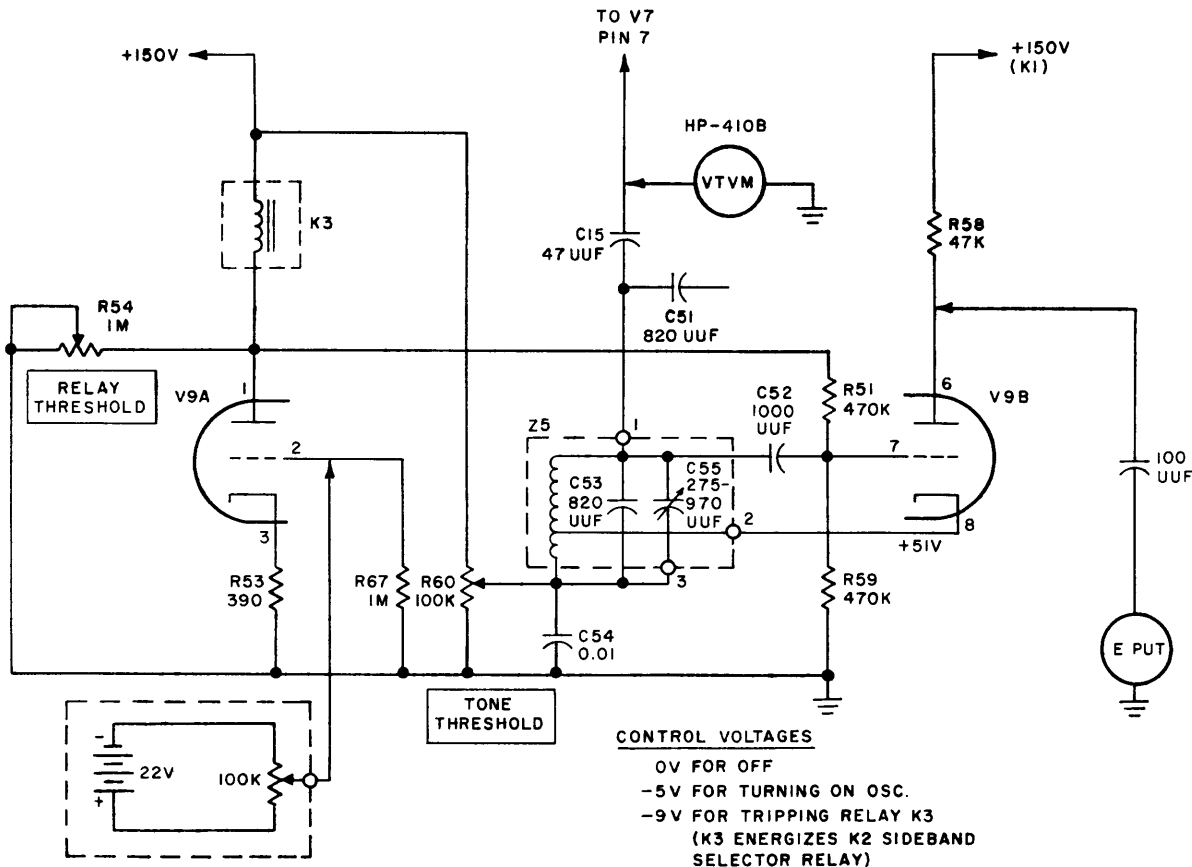

Figure 5-1. Control Voltage Setting Diagram, Remote Operation
i. REACTANCE SHIFT. - (For remote control operation only see figure 5-1).
(1) Apply DC supply across pins 11 and 12 of E1. Check frequency of oscillator with counter and set voltage by adjusting reactance balance control to obtain the following:
k. REMOTE CONTROL SIDEBAND SELECTION. - (For remote control operation only see figure 5-1).
(1) RELAY THRESHOLD ADJUSTMENT (K3).
(a) Apply negative voltage supply as shown in figure 5-1, to pin 2 of V9a.